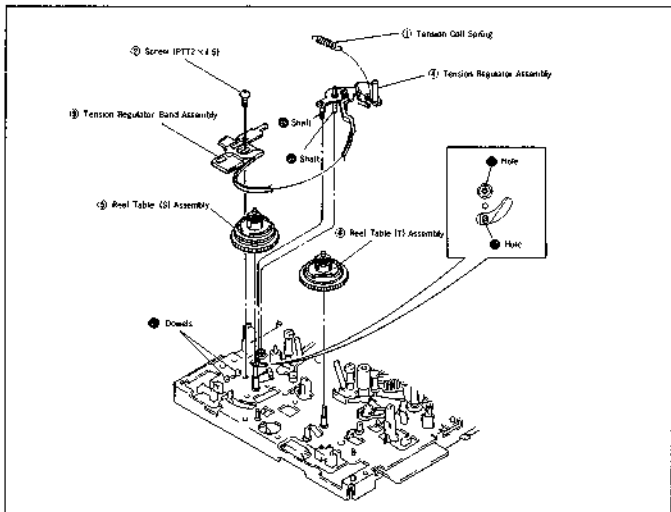

Fig. 12
**4-6. TENSION REGULATOR ASSEMBLY, REEL TABLE (S) ASSEMBLY AND REEL TABLE (T) ASSEMBLY (Fig. 12)**